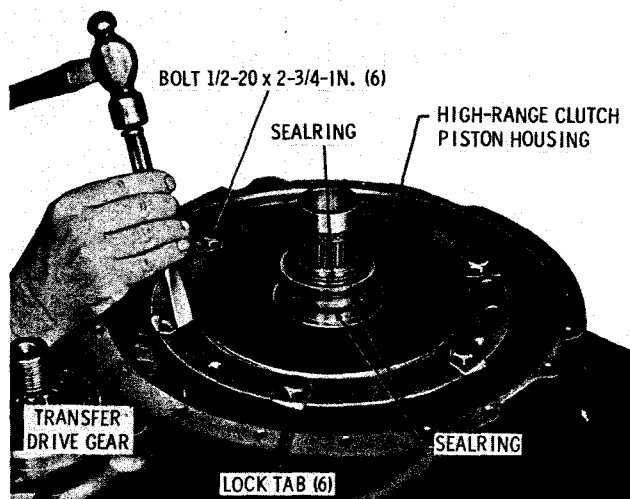

Fig. 5-25. Flattening piston housing bolt tabs (TTB 2221-1, 2421-1)
(1) Straighten the six locktabs and remove the six bolts and locktabs that attach the high-range clutch piston housing to the transfer drive gear (fig. 5-25). Remove the